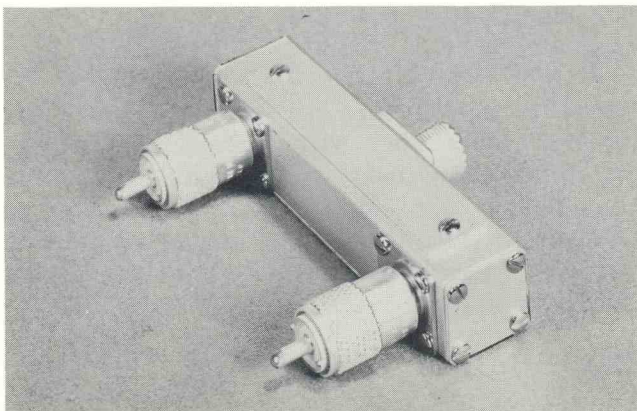

Fig. 5-1. Special Dual-Input coax connector.
11. Tektronix Dual Input Connector, see Fig. 5-1. Tektronix Part Number 003-035.